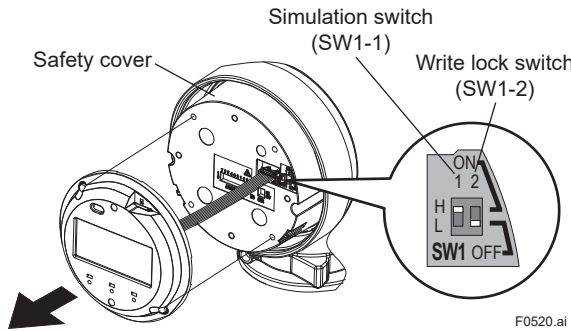

Figure 13.1 Settings of Simulation Switch
* See Figure 13.1 Settings of Simulation Switch
* See Figure 13.1 Settings of Simulation Switch - Write lock switch(SW1-2)
To prevent this function from being mistakenly activated while running, a simulation switch is implemented as a “key” on the amplifier. If this switch (SW1-1) is moved to the ON side, the simulation is enabled. (See Figure 13.1.)